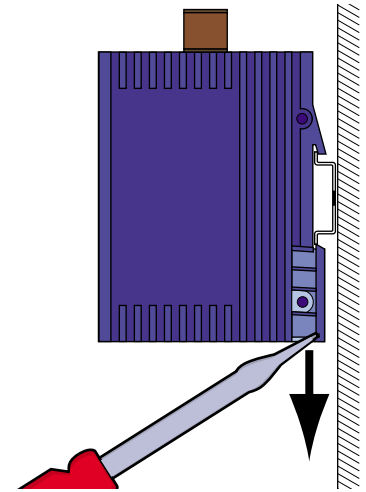

Fig. 7: Dismantling the SPIDER 5TX
□ To take the SPIDER 5TX off the ISO/DIN rail, unlock the snap-in mechanism according to Fig 7.